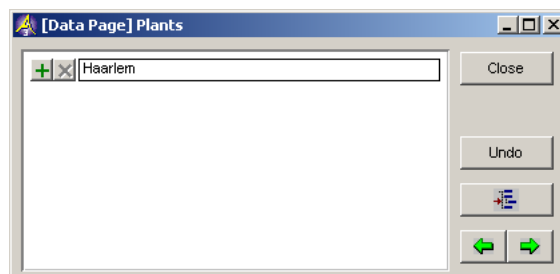

Figure 4.1: Data page for the set 'Plants'
- ▶ move the mouse pointer to the data page as shown in Figure 4.1, and click in the empty edit field at the top of the data page,